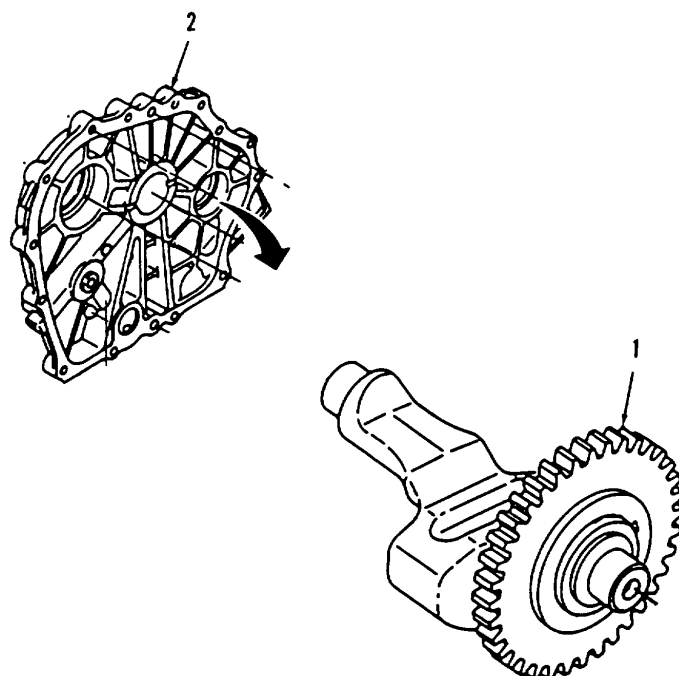

Figure 6-8. Balancer Shaft Removal.
a. Removal. (Refer to Figure 6-8).
- (1) Check the location of the timing marks on all gears.
- (2) Remove the balancer shaft (1).